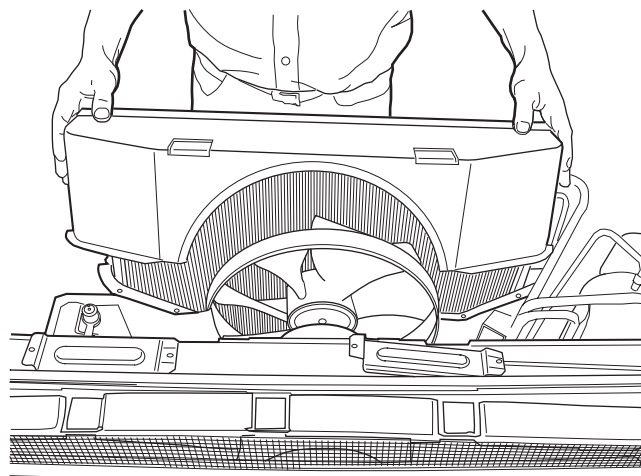

FIGURE 15 — REMOVING TOP OF CONDENSER ORIFICE
- c. Remove top of condenser orifice. See Figure 15.